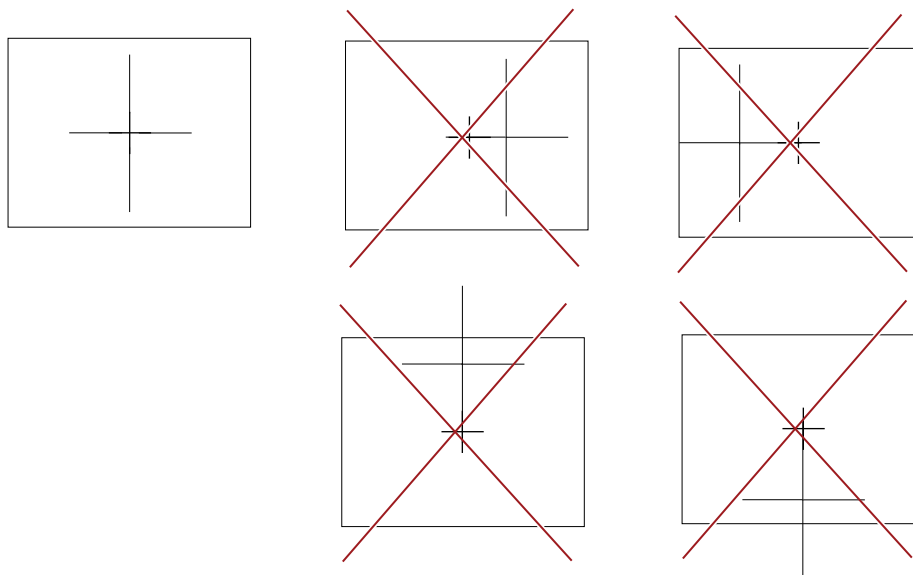

Fig. 4-61 Paper marks
4. Drive the column upward/downward. The center of the collimator light field must stay on the same mark, see Fig. 4-61 *Paper marks* below.